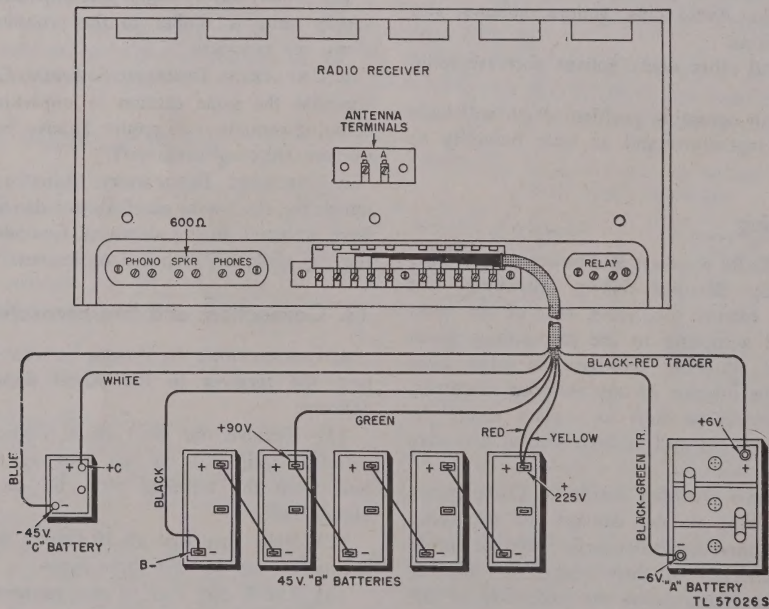

Figure 11. Cable connections for battery operation.
(1) Connect the battery cable to the receiver first and then replace the terminal cover before connecting the cable to the batteries.
(2) Connect the eight loose wires to the batteries according to the color code shown in figure 11.
(3) When discontinuing battery operation, disconnect the loose ends of the cable from the batteries *before* detaching the cable from the receiver.